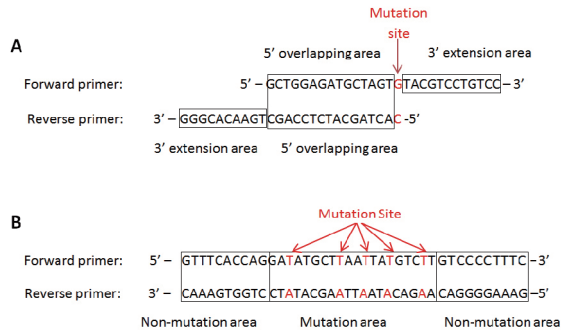

Figure 2. Principles of primer design
2. If there is only one mutation site in a primer, it should be designed as what is showed in Figure 2-A. This kind of primer should contain two parts: 5' overlapping area and 3' extension area. Primers should be around 30 bases in length which include 15-20 bases of 5' overlapping area and at least 10 bases of 3' extension area. The mutation site should locate at the downstream of forward primer's overlapping area and at the 5' end of reverse primer.
3. If there are 2-5 mutation sites in a primer, it should be designed as what is showed in Figure 2-B. The sequences of this primer pair are completely complementary and contain two parts: mutation area and non-mutation area. The length of primer should be around 40 bases, within which the mutation area should be 15-20 bases and the non-mutation area should be at least 10 bases. 2-5 mutation sites could be applied depending on the experimental purpose.